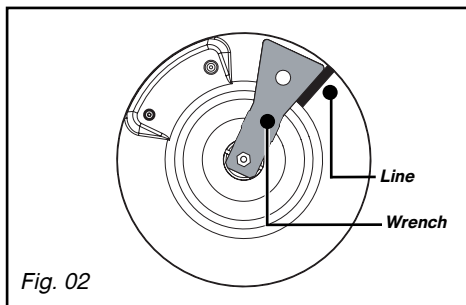

Fig. 02
- Draw a line on the burner plate using a pencil at the place indicated (Fig. 02).